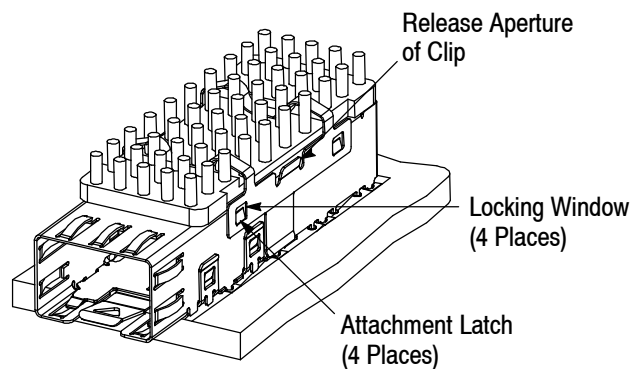

Figure 7
1. Insert the tip of a tool (such as a small screwdriver) behind either release aperture of the clip, and rotate the tool until the corresponding locking windows are released from the attachment latches of the cage assembly. Repeat this step for the remaining release aperture. Refer to Figure 7.